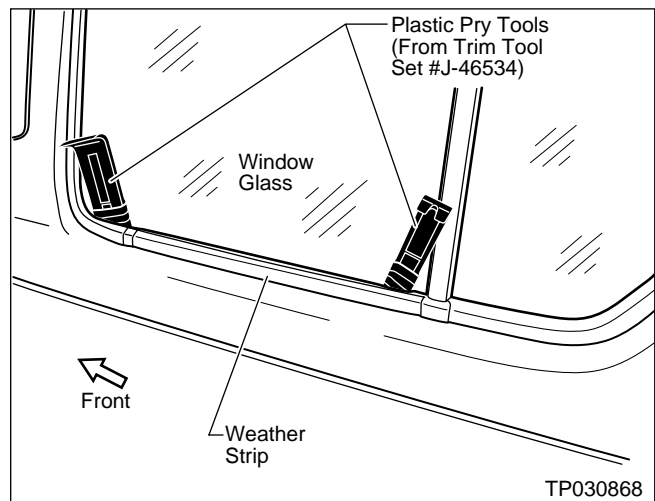

Figure 45
- c. Carefully insert the Plastic Pry Tools between the Window Glass and Weather Strip (see Figure 45).